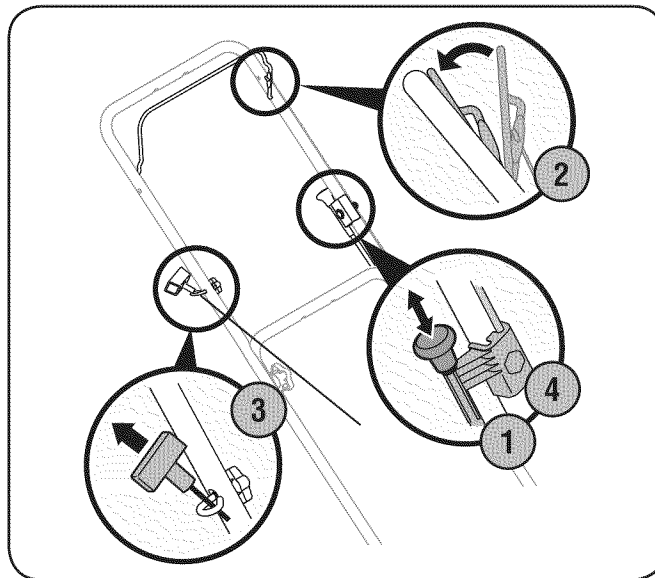

Figure 9-3
1. Pull out the choke knob located on the left side of the upper handle. See Fig. 9-3.
3. Pull the starter grip lightly until resistance is felt, then pull rapidly to overcome compression, prevent kickback, and start engine. Repeat if necessary. See Fig. 9-3.
4. When engine warms up, push in the choke knob. See Fig. 9-3.